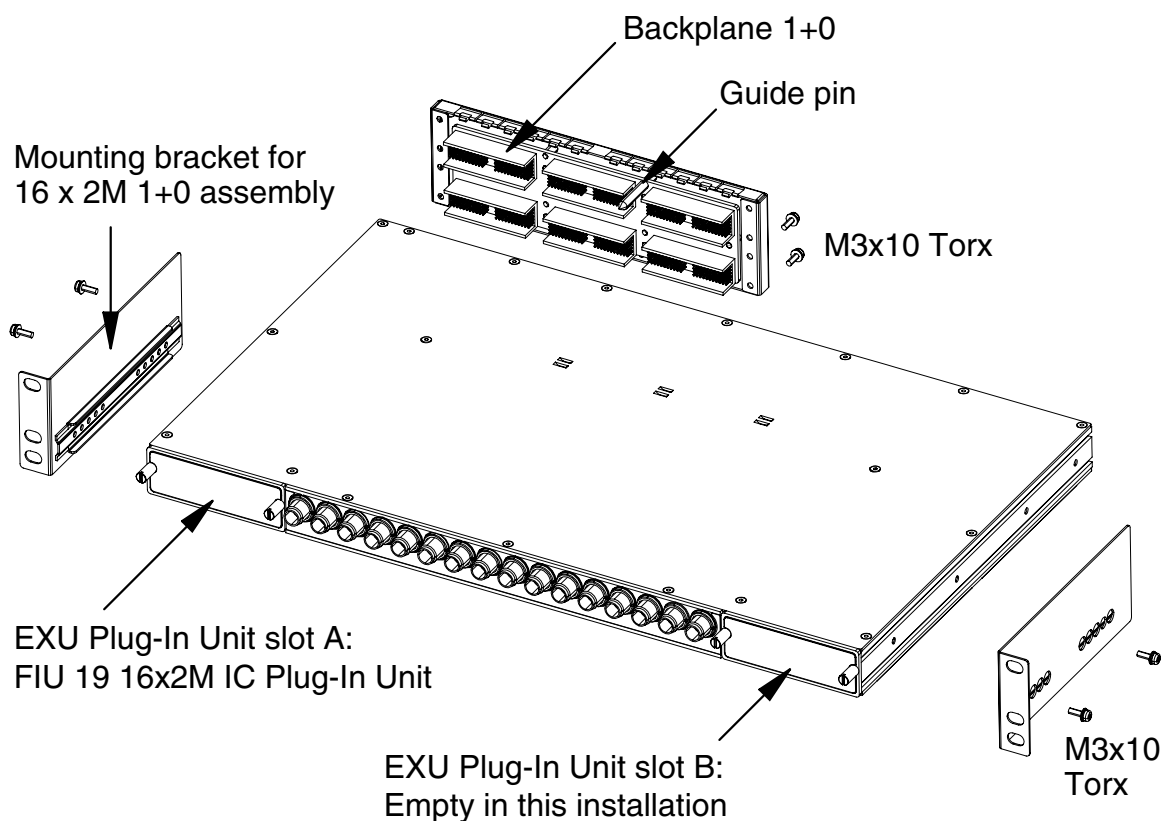

Figure 3. Installing FIU 19 16 x 2M 1+0 in a 19-inch rack, phases 1 - 2
2. Screw the backplane guide pin to its place (Figure 3). Fix the backplane to the expansion unit with four Torx screws.